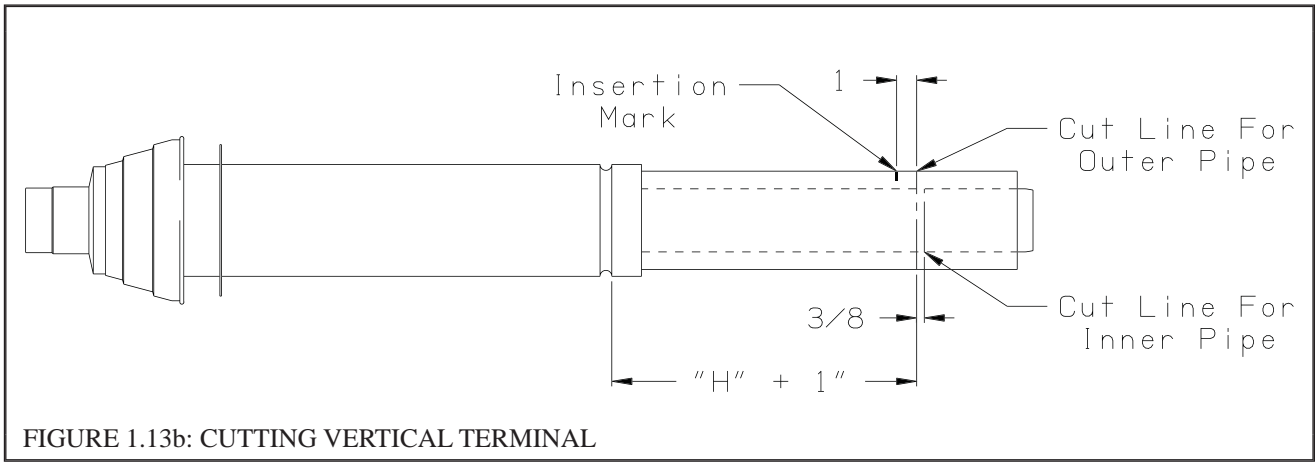

FIGURE 1.13b: CUTTING VERTICAL TERMINAL
- Add 1" to distance "H". Carefully mark this length on the pipe as shown in Figure 1.13b.
- Place a mark on the aluminum inner pipe 3/8" beyond the end of the outer pipe (Figure 1.13b). Use a fine tooth hacksaw to cut the aluminum pipe and be careful to cut the pipe square. De-burr the cut edge of the aluminum pipe with a file or emery cloth.
- Make a mark on the terminal section 1" from the cut end of the outer pipe as shown in Figure 1.13b.